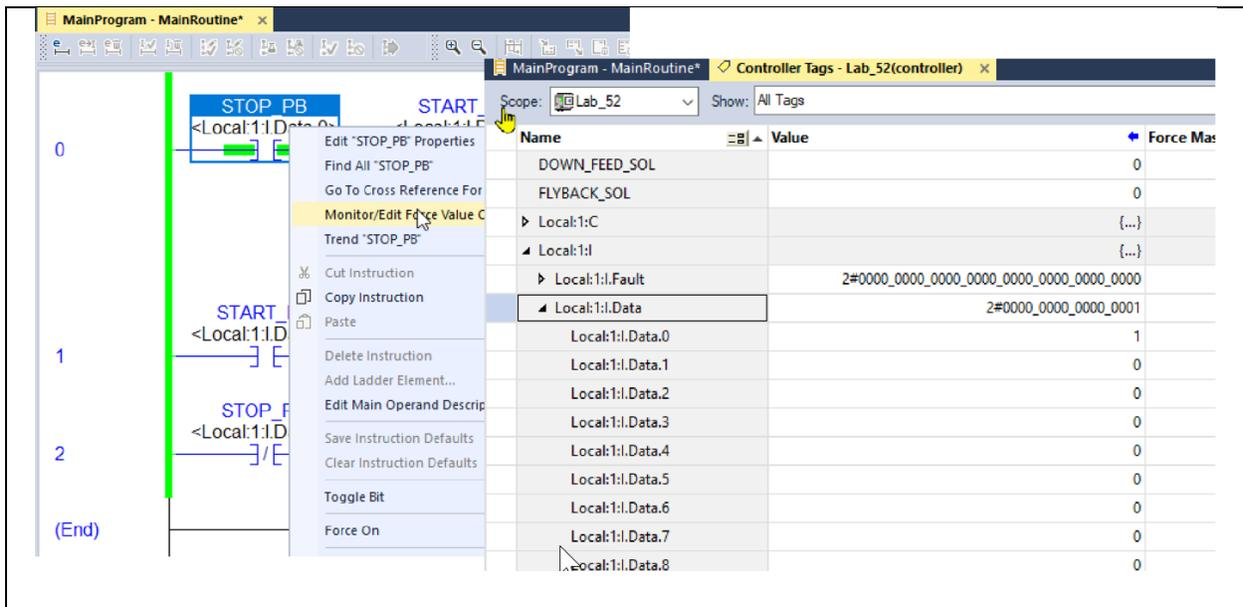

Figure 5. Monitoring the Tags in the Controller Tags folder.
3. Monitor the status of the input tags by doing a right mouse click on the STOP_PB tag, then choosing “Monitor/Edit Force Value” as shown in Figure 5. Toggle different inputs on and off and monitor the state change of the tags.